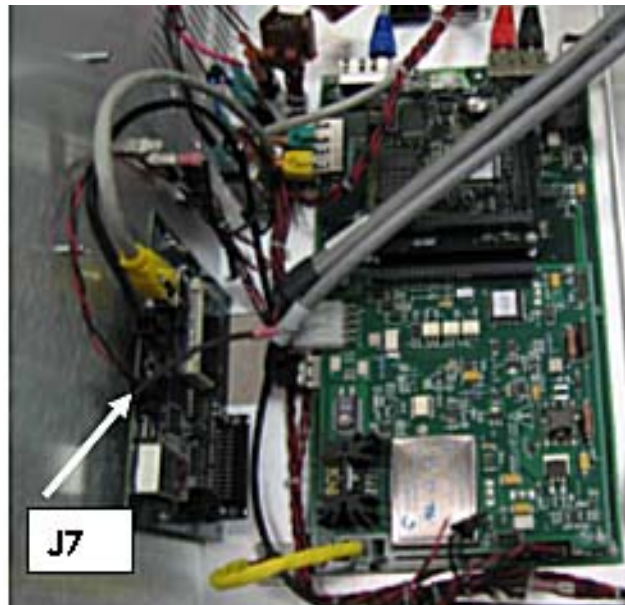
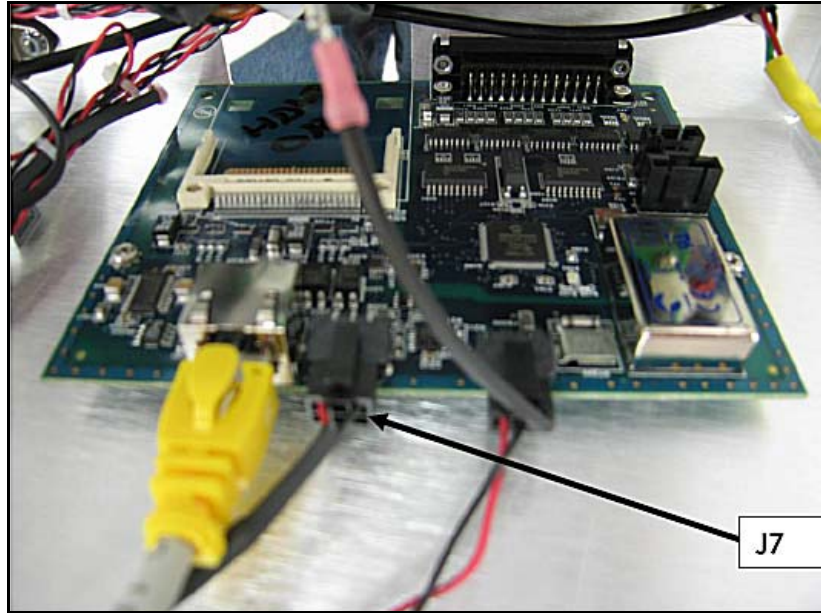

Figure B-19 J7 Connector and Valve
Figure B-20 J7 Connector on Discrete I/O Board
- Install the valve control cable to the valve and route it to the discrete I/O board J7 connector (Figure B-19 and Figure B-20).